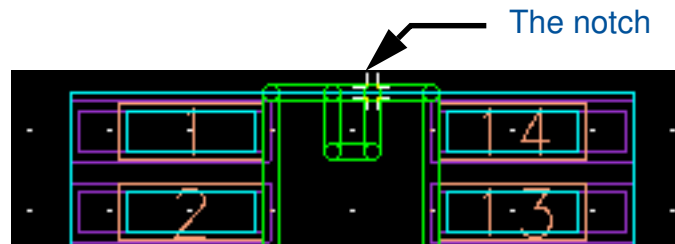

Figure 3-31. The Notch added to the SOIC14 Component
14. Set the grid spacing to 0.0125 inch, with a display interval of 4, then add the notch to the top of the body outline, as shown in Figure 3-31.